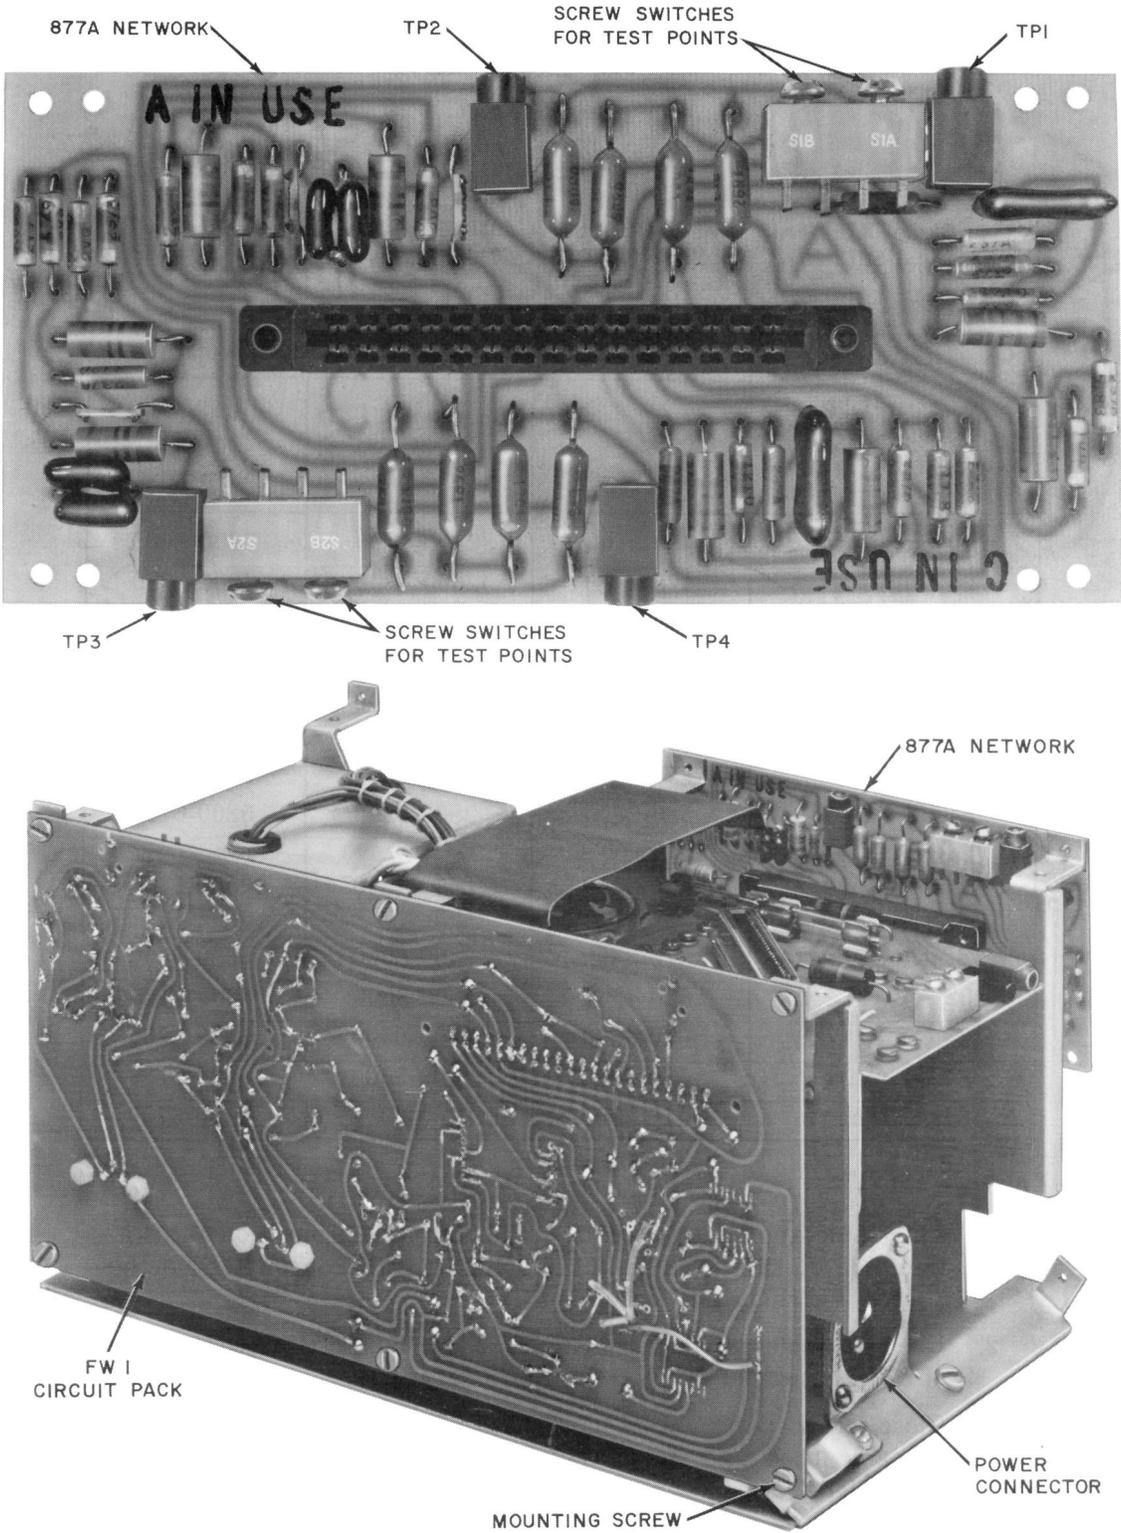

Fig. 18—1A Service Unit with 877A Network
- 3.17** Select FW1 or FW2 circuit pack (Fig. 6), 939A or B cable equalizer (Fig. 16 and 17) or 877A or B network (Fig. 18) according to the type of service and length, type and gauge of cable as outlined in Tables B, C, and D. Use an FW3 circuit pack if the service unit is for a single line installation behind a 101A ESS PBX.
**3.23** Plug power cord in power connector (Fig. 18). *Do not plug cord into ac receptacle at this time.*